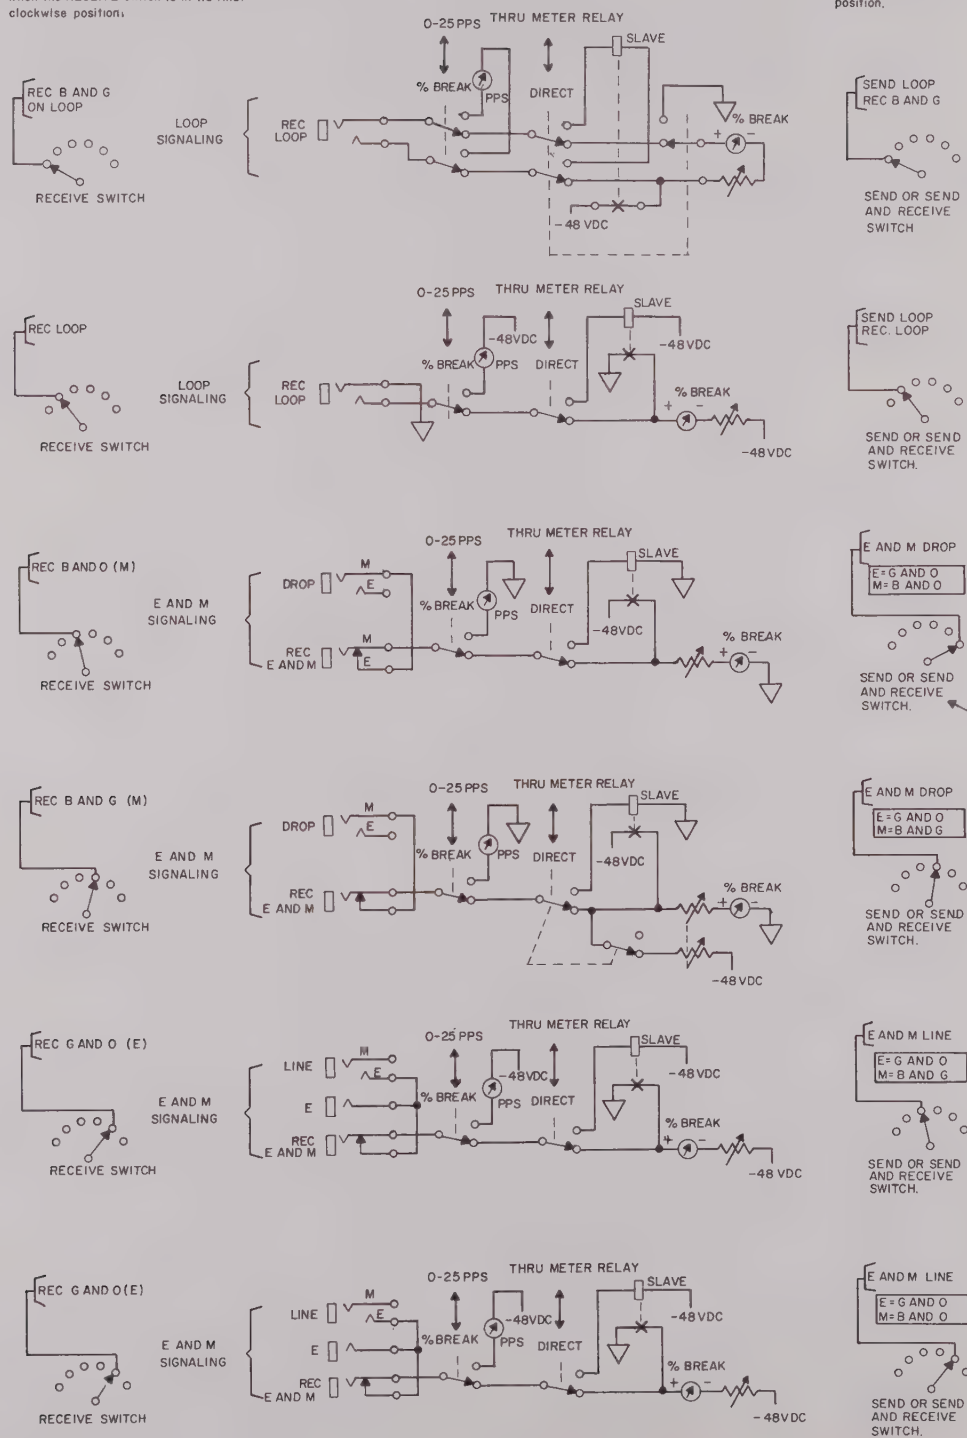

Figure 3-3 RECEIVE CIRCUITS
3.13 Fig. 3-3, 3-3a, 3-3b show in simplified schematic form the circuit for sending in each of the sending positions of the SEND or SEND AND REC switch.